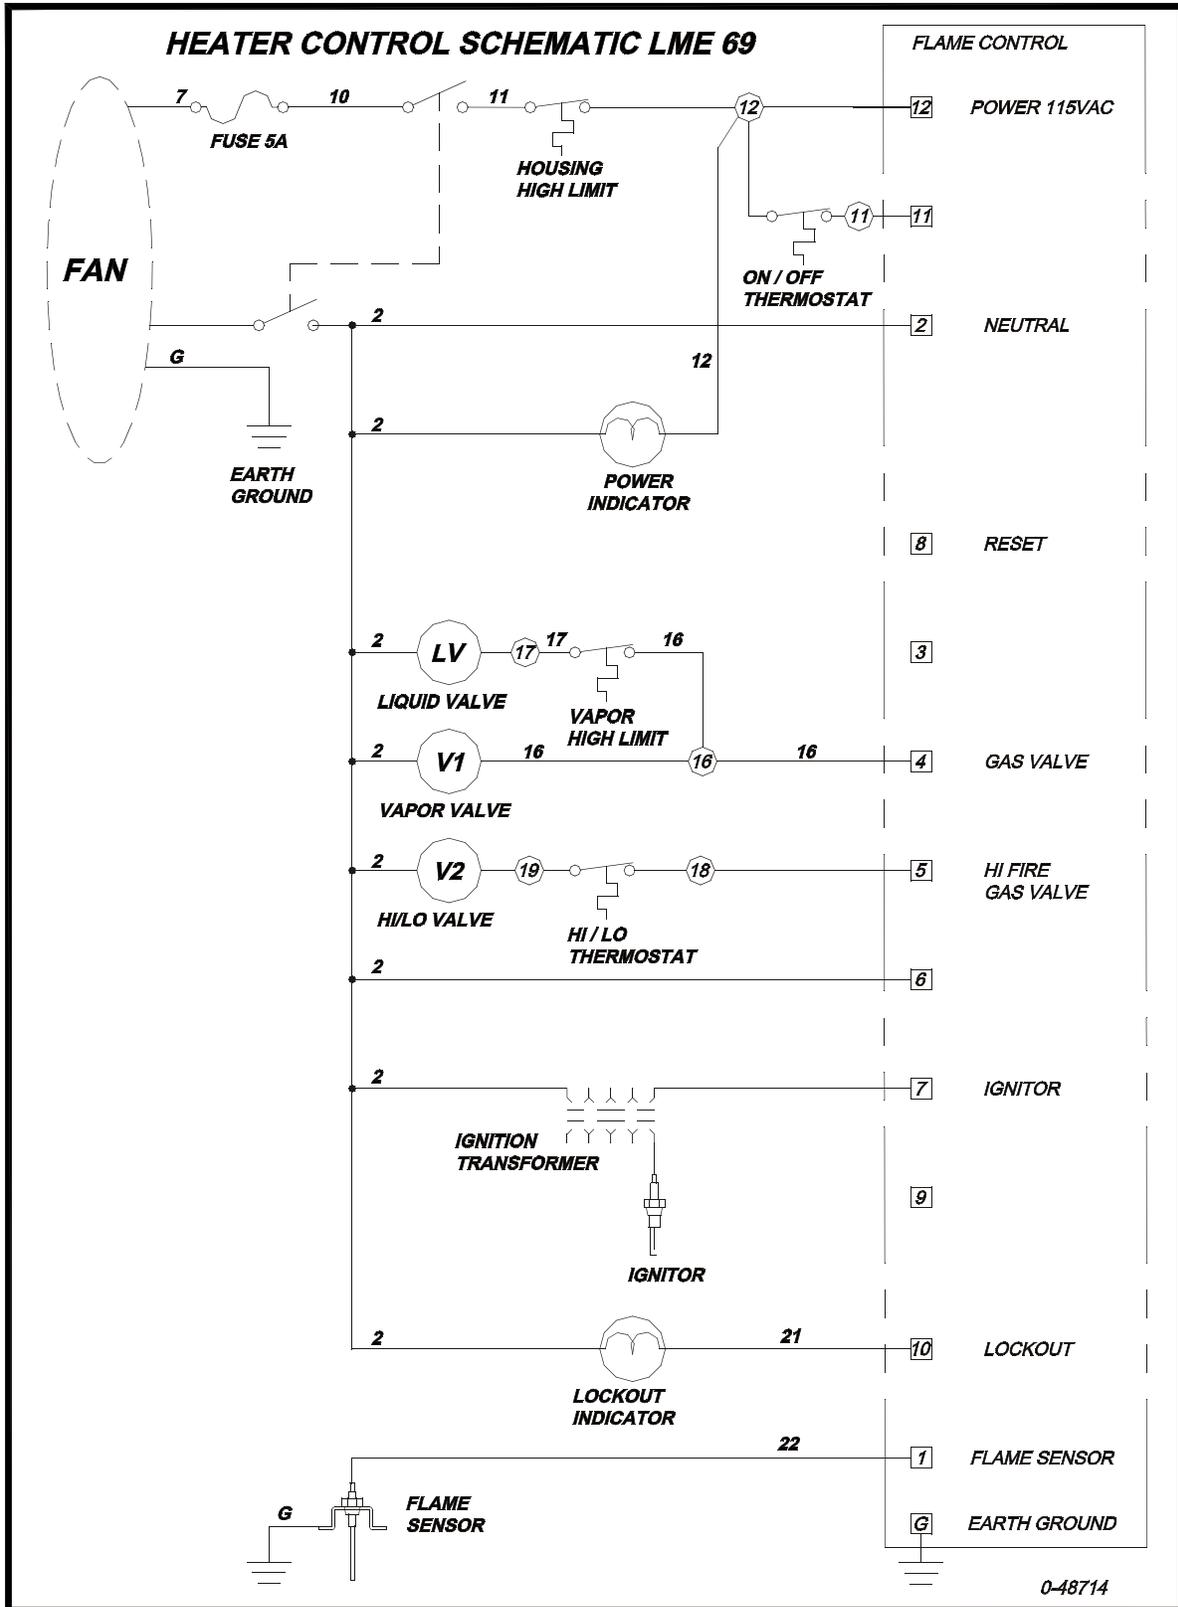

Figure 18. 0-48714 Wiring
1. A plenum Thermostat device is required to control temperature and operate the Heater safely. Use the recommended BROCK® thermostats and connect them to the terminals as shown in the **Thermostat Chart** below and the Wiring Diagram, **Figure 18**.
3. Route the power cord from the Thermostat back to the Heater Control and connect to the Heater terminal strip. See the Thermostat Chart below and Wiring Diagrams (**Figure 18**) for connections.